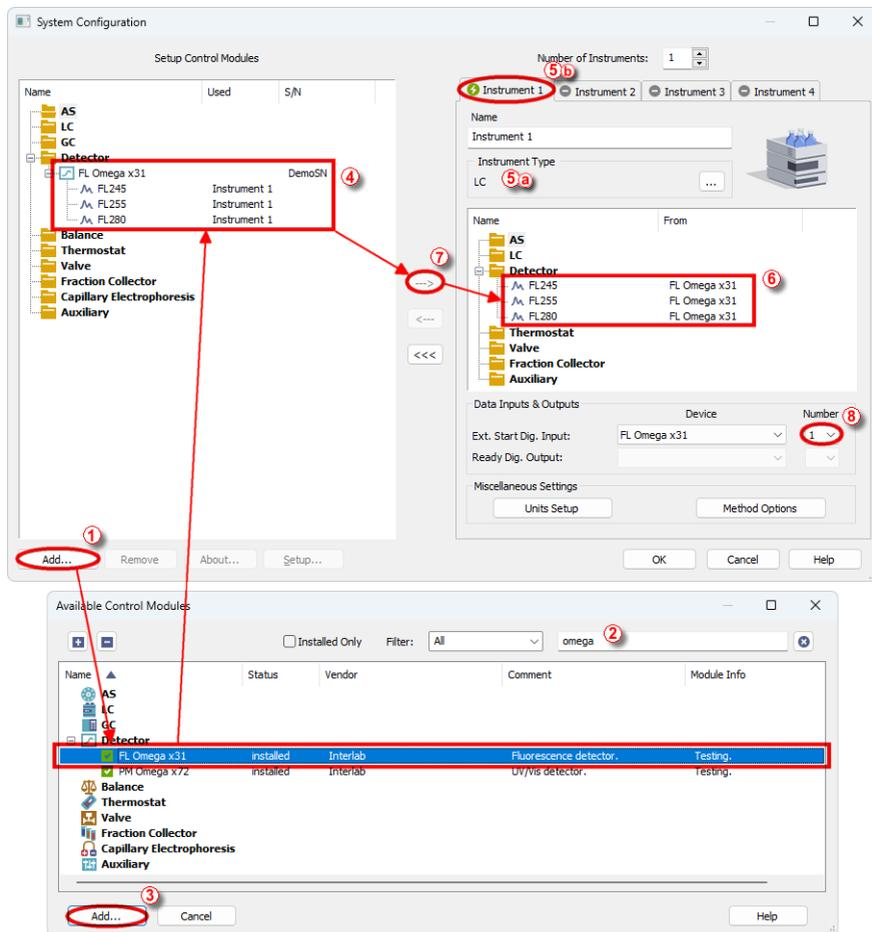

Fig. 4: System Configuration - FLD Detector
- Press the *Add* button ① (see Fig. 4 on pg. 7.) to invoke the *Available*
- You can specify the searching filter ② to simplify the finding of the driver.
- Select the **FL Omega x31** and press the *Add* ③ button.